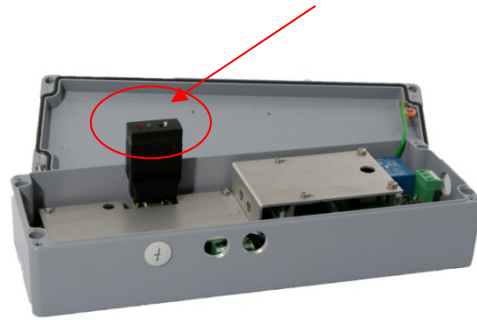

Figure 15
3. Switch on the dongle (fig. 15). The red LED indicator on the dongle will burn now.